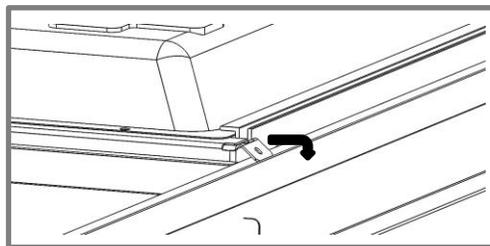

Figure 10.
- a. Look for the tabs in the corners of the panel and flip them inside out, as shown in figure 10